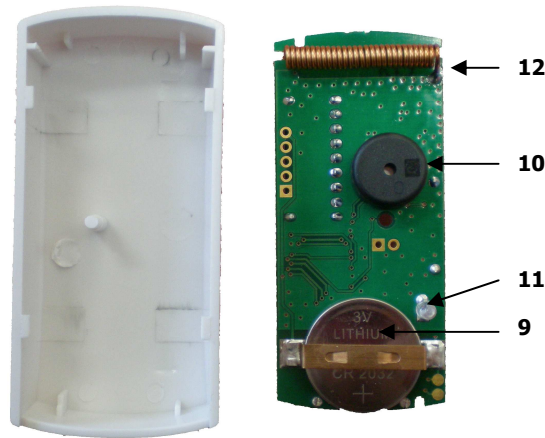
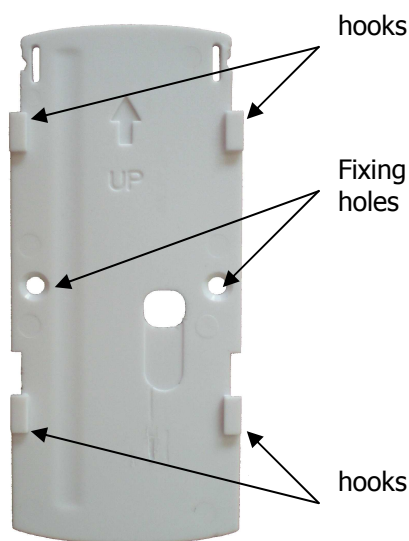

Fig. 3 – battery PCB side
Fig.4 -Back frame
- 1) Place the back frame (fig. 4) on the fixture making sure to turn the magnetic sensor to the moving part of the frame where the permanent magnet is placed. Then mark the holes printed on the bottom box (see fig. 3), 5-6 mm drill with drill and secure the bottom